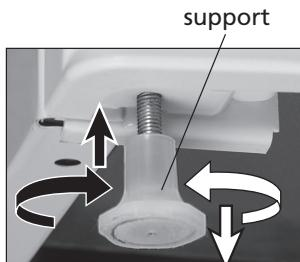

Figure 1
3.3 The freezer should be set horizontally to the floor unscrewing or screwing the adjustable supports in accordance with figure 1. The freezer must stand steadily on supports and rollers.